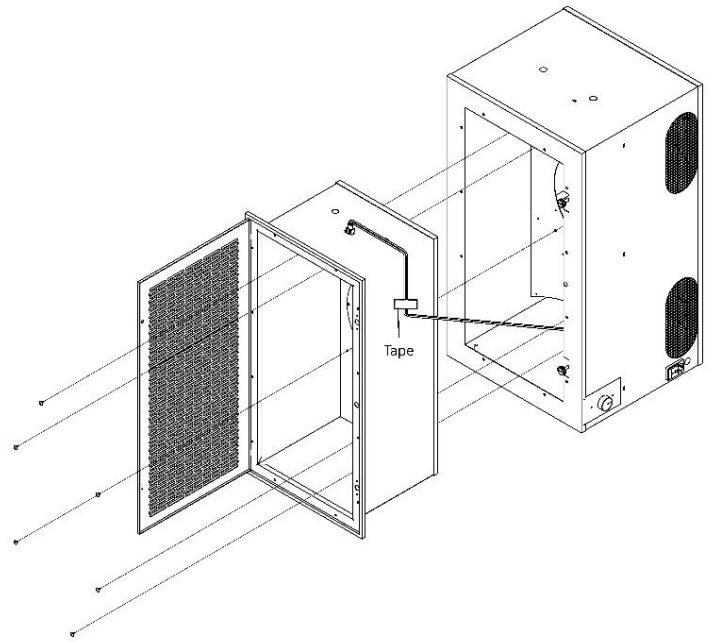

Figure 15
7.) Remove (6) more M4 screws holding insert in place. See Figure 15.
- 21.) Tape wire to the side of the housing insert. This will keep it from being wedged. See Figure 15.